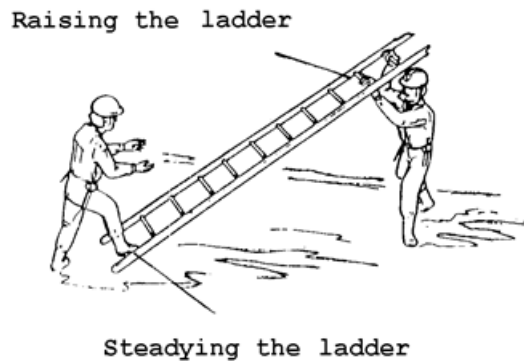

FIG 28.
- Ask an assistant to place one foot on the bottom rung of the ladder to steady the base and prevent movement. (Fig 28)